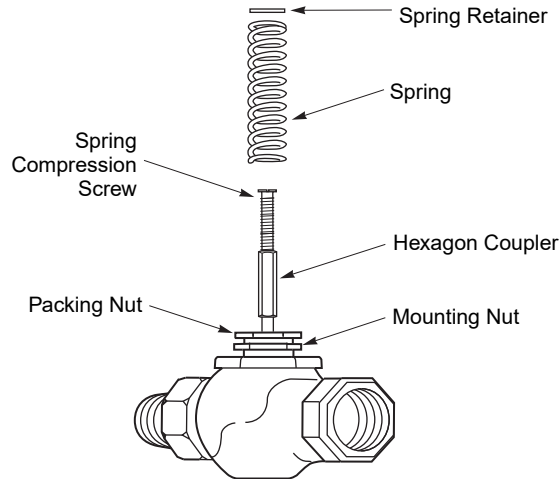

Figure-2 Assembly of AV-7400 Linkage Kit onto VB-7XXX Series Valve.
2. Start the spring compression screw one turn or more into the hexagon coupler. Pull the valve stem completely up (Figure-2).